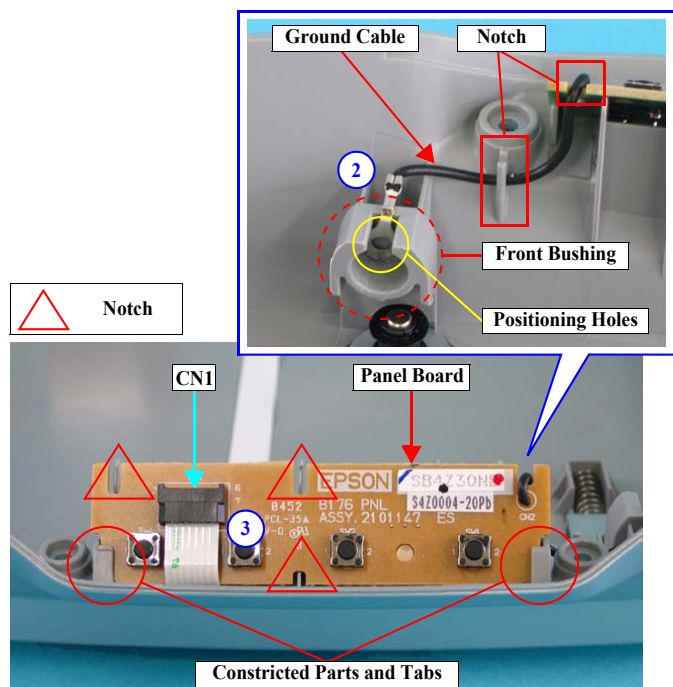

Figure 4-11. Removing the Panel Board
- Put the ground terminal into the front bushing of the Lower Housing as shown in Figure 4-11.
- Route the ground cable through the notches as shown in Figure 4-11.
- Insert the two constricted parts on both left and right ends of the Panel Board into the tabs of the Lower Housing and match the three notches of the board with the three tabs of the Lower Housing as shown in Figure 4-11.